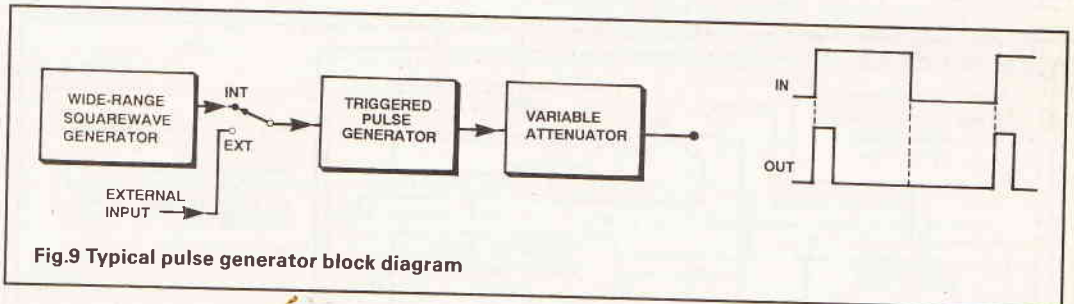
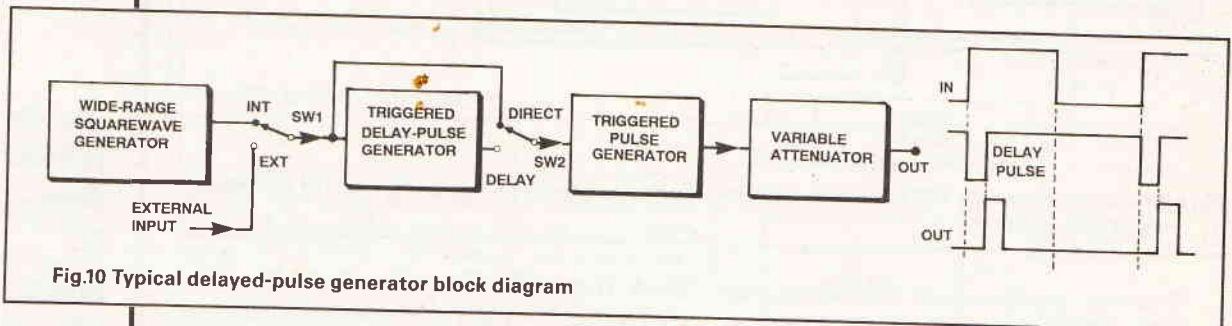

Fig.9 Typical pulse generator block diagram
Fig.10 Typical delayed-pulse generator block diagram
**Pulse Generators.** These produce an output pulse on the arrival of a suitable input trigger signal, which may be generated either internally or externally. Figure 9 shows the block diagram of a simple pulse generator that produces a single variable-width output pulse on the arrival of each rising edge of a rectangular input signal. Figure 10 shows a modified version of the above generator, in which the initiation of the output pulse can (when SW2 is set to the DELAY position) be delayed by a period equal to the width of the delay-pulse generator. Typically, both pulse widths can be varied from a fraction of a microsecond to hundreds of milliseconds.